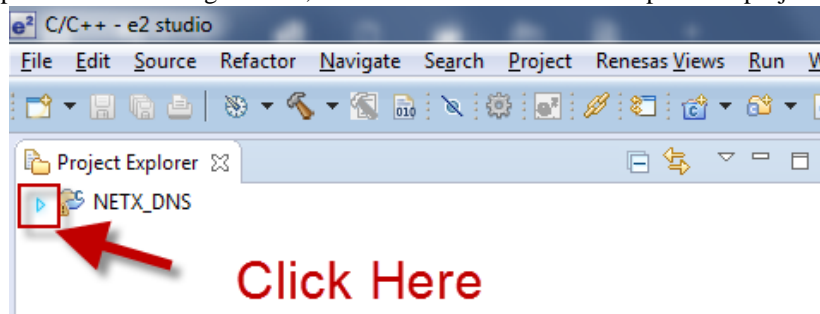

Figure 2.11 Collapsed Project Explorer
1. If the Project Explorer looks like Figure 2.11, click the arrow to the left to expand the project.